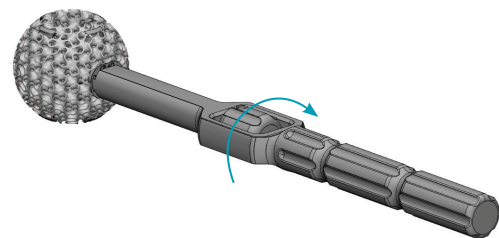

Fig. 11
11. With the definitive Ossera™ AFX implant selected, attach the inserter the Ossera™ AFX by placing the prongs of the inserter into the corresponding lateral slots in the implant and rotating the handle clockwise while holding the outer sleeve (fig. 11). Autograft, allograft or synthetic bone graft material may be packed into the porous lattice and along the circumference of the central hole near each end of the Ossera™ AFX. When the nail is advanced through the central hole of the Ossera™ AFX, the bone graft will help to prevent contact between the Ossera™ AFX and the nail.